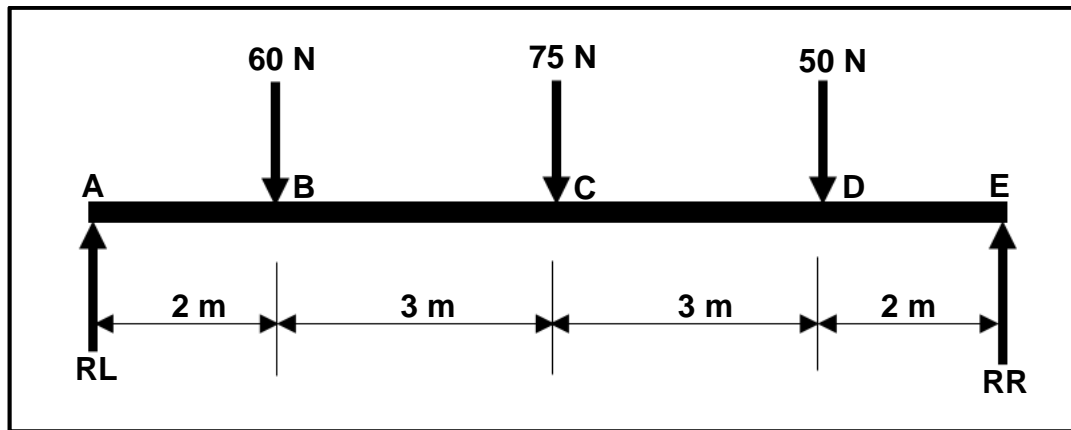

FIGURE 7.1
- 7.1 The diagram in FIGURE 7.1 below shows a beam that is supported at both ends by **RL** and **RR**. Three vertical point loads are exerted onto the beam. Answer the questions that follow.